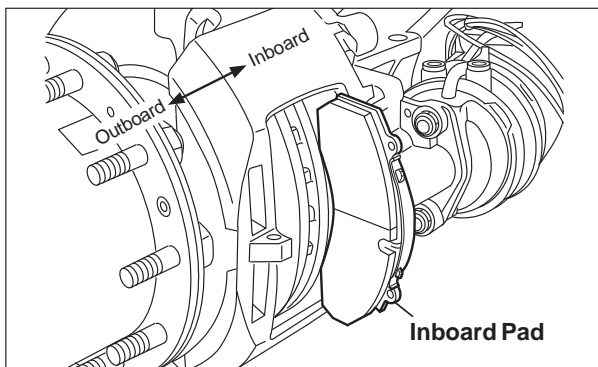

FIGURE 38 - PAD REMOVAL
- 5.2.9 See Figure 38. Move the caliper fully inward and remove the inboard pad, then move the caliper fully outward and remove the outboard pad.